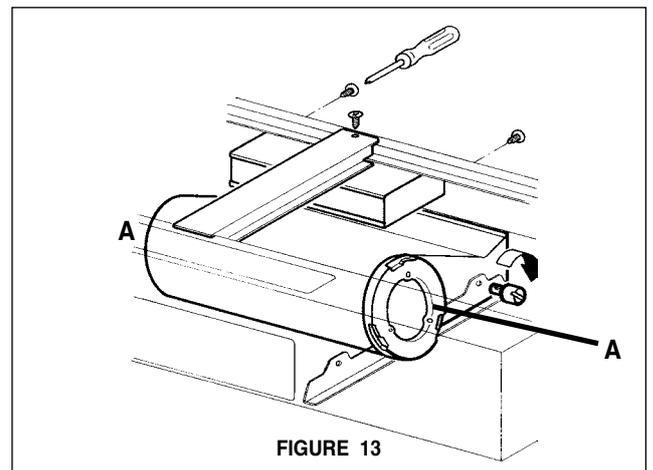

FIGURE 13
2. **Remove the two black filter holders (A) in FIGURE 13 on each end of the blower by removing the 3 screws.** Then Rotate the blower 180° so that the exhaust points out the front of the rangehood. Replace the black filter holders and the two thumb screws and tighten so that the blower is securely fastened inside the rangehood as indicated in **FIGURE 13**. Reattach the control box and central support. Make sure that the wiring harness is concealed behind the central support.